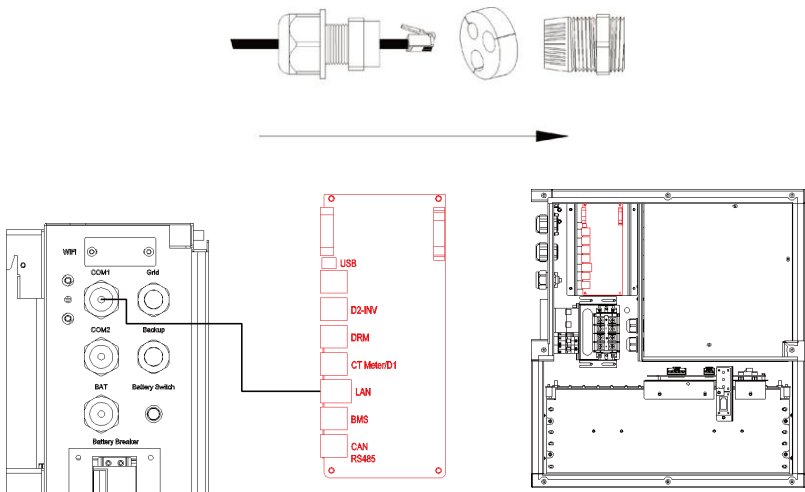

Figure 2.15 Ethernet Communication Cable Wiring
**Step 10** Install ethernet communication cable, as shown in Figure 2.15. It won't be needed if the WiFi module will be used.